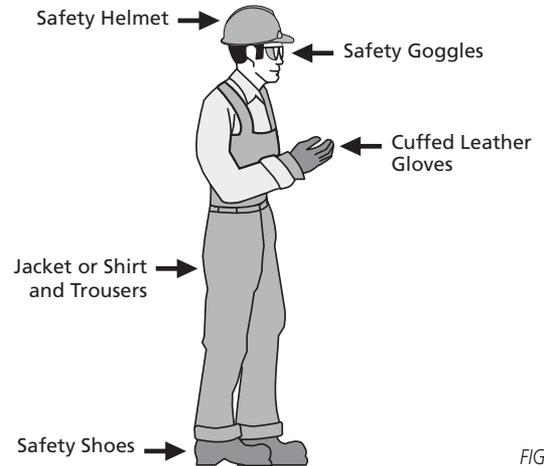

FIGURE 1
- ⚠ **WARNING:** The worker(s) performing the welding must be properly dressed and equipped. Examples include cotton or woolen garments (most synthetic fabrics melt rather than char when exposed to flame, causing severe burns), safety footwear with non-slip soles, head protection, leather gloves, eye goggles and other clothing and equipment recommended or required by the person's employer, industry practice, or applicable laws and regulations. **See Figure 1.** The worker(s) must not be under the influence of any alcohol, drugs or other chemicals that would impair their judgment or performance of the job. Failure to observe this may result in serious personal injury.